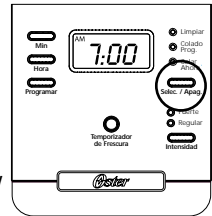

figure 4
1. After completing the steps in the “Adding Water and Coffee” section and with the thermal carafe and the filter basket securely in place, turn the coffee maker on by pressing the select “Selec./Apag.” button once (Figure 4). The brew now “Colar Ahora” light will turn on and pulse to signal that the coffee maker is on and brewing.